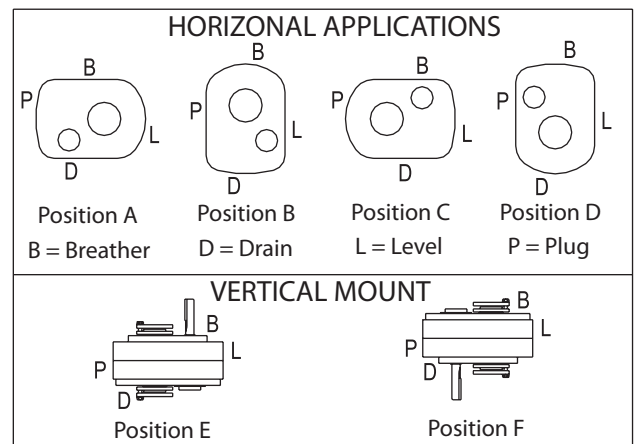

Figure 1 - Mounting Positions
2. Determine the running position of the reducer. (See Fig. 1) Note that the reducer is supplied with either 4 or 7 plugs; 4 around the sides for horizontal installations and 1 on each face for vertical installations. These plugs must be arranged relative to the running positions as follows:
3. The running position of the reducer in a horizontal application is not limited to the four positions shown in Figure 1. However, if running position is over 20' either way from position "B" or "D" in Fig. 1 sketches, or 5' either way from position "A" or "C," the oil level plug cannot be safely used to check the oil level, unless during the checking the torque arm is disconnected and the reducer is swung to within 20°/5° of the positions shown in Figure 1. Because of the many possible positions of the reducer, it may be necessary or desirable to make special adaptations using the lubrication fitting holes furnished along with other standard pipe fittings, stand pipes and oil level gages as required. 3.
① Refer to Figure 1 on page 2 for mounting positions
② U.S. Measure: 1 quart = 32 fluid ounces = .04646 liters
③ Below 15 RPM output speed, oil level must be adjusted
NOTE: If reducer position is to vary from those shown in Figure 1 either more or less oil may be required. Consult Dodge Product Support.